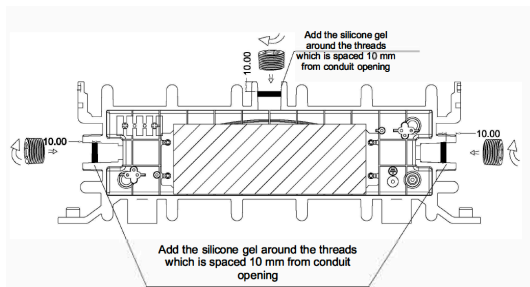

Fig. 5
Note: All the conduit openings must be closed by conduit or NPT nut. Whenever installing the NPT nut or conduit during installation or maintenance, ensure silicone gel is added around the threads (Fig. 5).
1. Mark the wall and drill as appropriate. (Fig. 5).